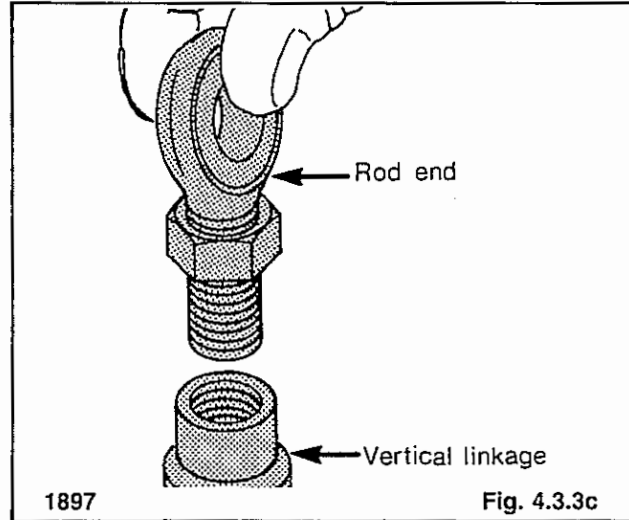

Fig. 4.3.3c
6. Back out the male rod end from the vertical linkage (fig. 4.3.3c).